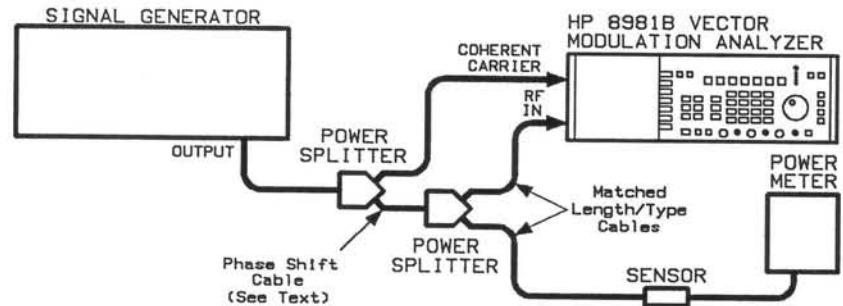

Figure 4-3. RF INPUT Test Setup
1. Connect the equipment as shown in Figure 4-3. Since a difference in path length will introduce phase and amplitude errors, the cables connected to the RF IN connector and power sensor should be of the same type (BNC or type N) and be within a few centimeters of the same length.